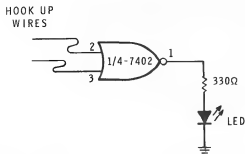

Figure 5-52
9. Wire one of the four gates in the IC as shown in Figure 5-52. As before, you will use the hookup wires to apply high (+5V) or low (0V) logic signals to the gate. The LED will monitor the gate output.